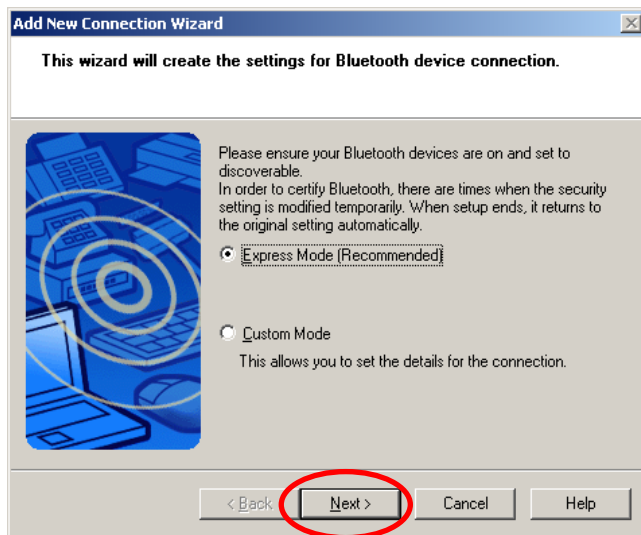

Figure 2-8: A2DP example 1 – Start discovery of Bluetooth device
3. Click Next (Discover BT Devices) - Figure 2-8